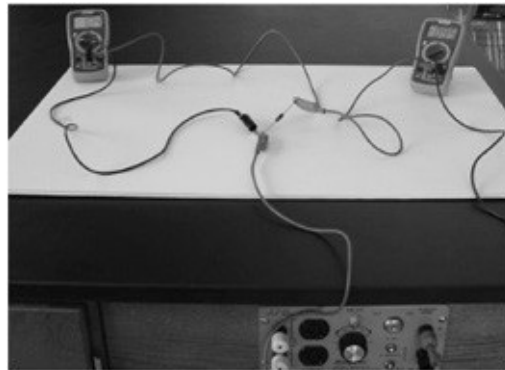
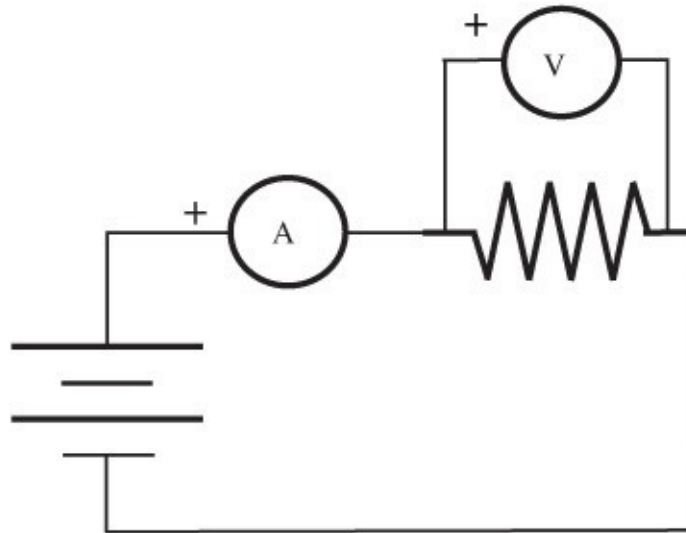

Figure 99-1 Circuit for measuring Ohm's law.
Figure 99-2 Schematic for measuring Ohm's law.
1. Connect a circuit, as shown in Figure 99-1. This is a circuit consisting of a resistor in series with a DC power supply and an ammeter with a voltmeter
connected by jumper wires to each of the ends of the resistor. A drawing called an *electrical schematic* is shown in Figure 99-2. This is equivalent to Figure 99-1, but it shows the electrical connections without regard to the actual physical layout of the components.